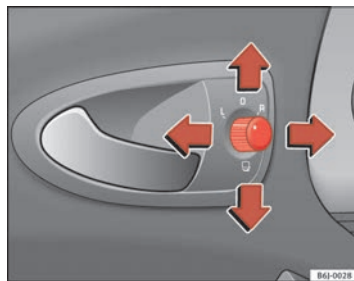

Fig. 63 Controls of exterior mirrors
1. Turn knob ⇒ fig. 63 to position **L** (left exterior mirror).
- Turn the control ⇒ page 99, fig. 63 to position  to fold in the exterior mirrors. You should always fold in the exterior mirrors if you are driving through an automatic car wash. This will help prevent damage.